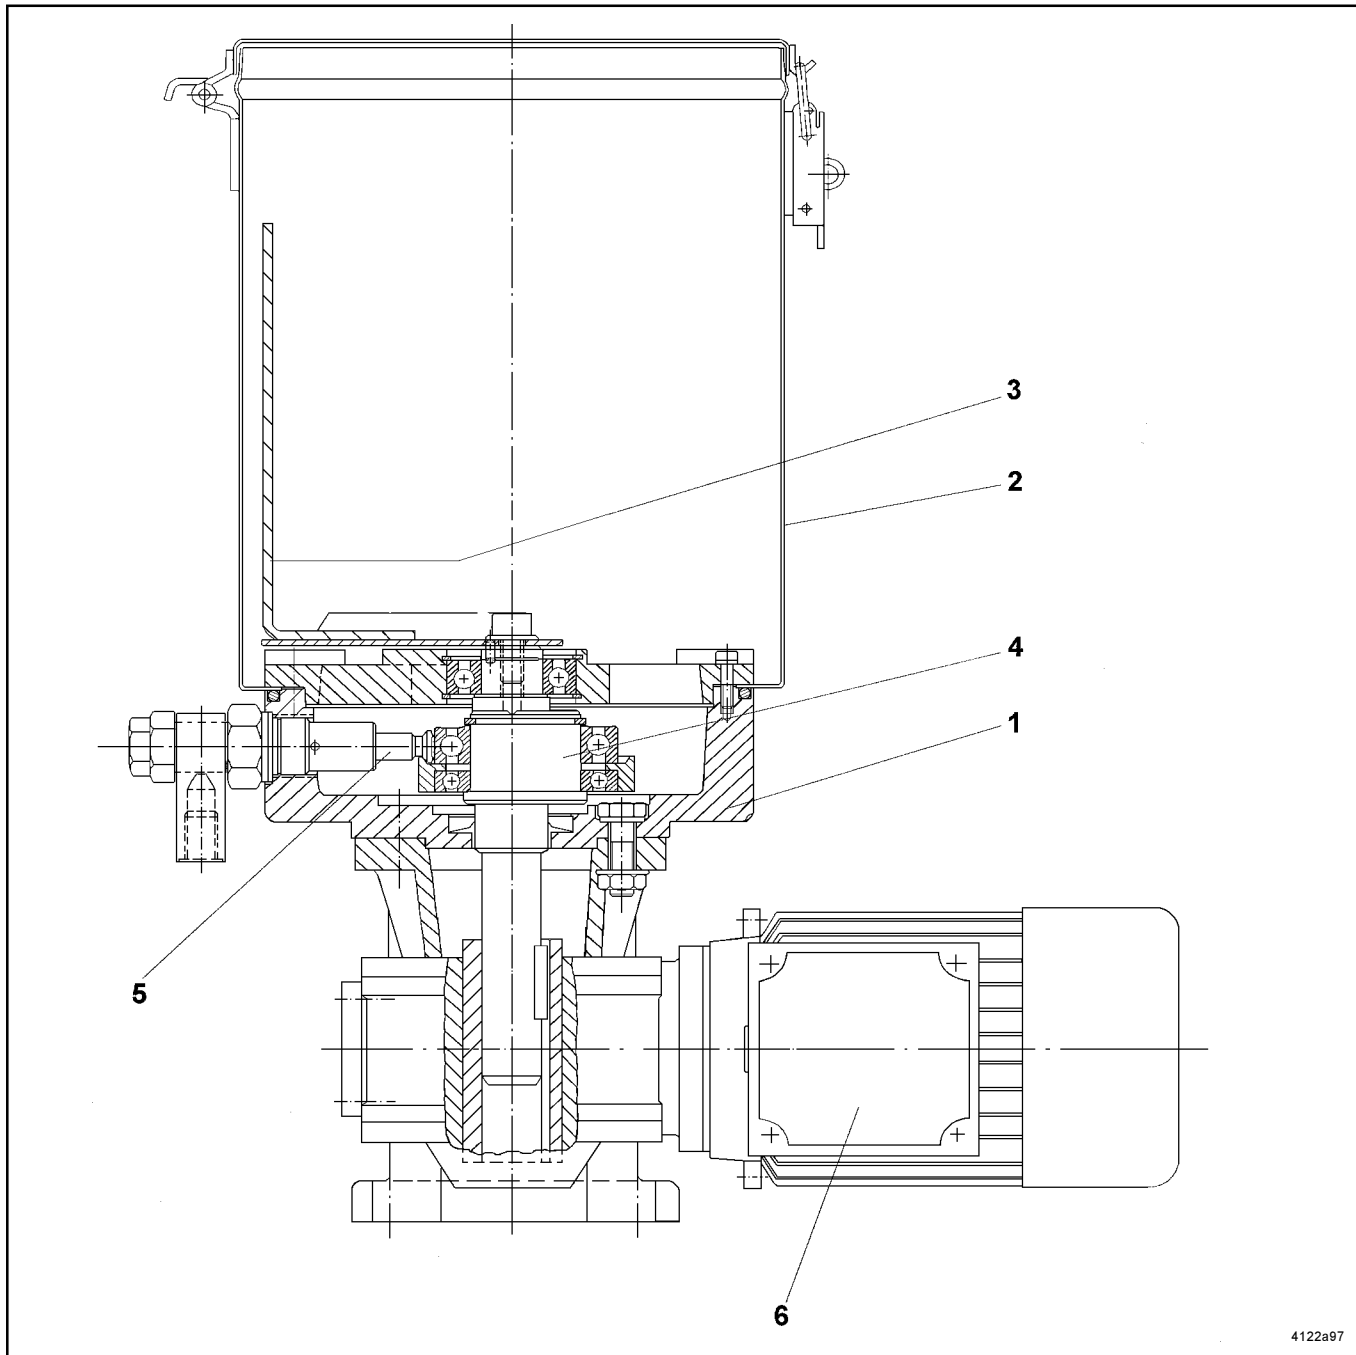

Fig. 1- Sectional drawing of pump model ZPU 01/02
- The worm gear (6, Fig. 1) reduces the speed of the drive motor down to the speed of the eccentric shaft.
- The eccentric shaft (4) causes the piston in the pump element (5) to be moved forward and backward, with the result that the lubricant is sucked in and dispensed to the outlet via a check valve.
- At the same time, the eccentric shaft also drives the stirring paddle (3). The rotation of the stirring paddle causes the lubricant to be homogenized and dispensed to the suction boreholes of the pump element.